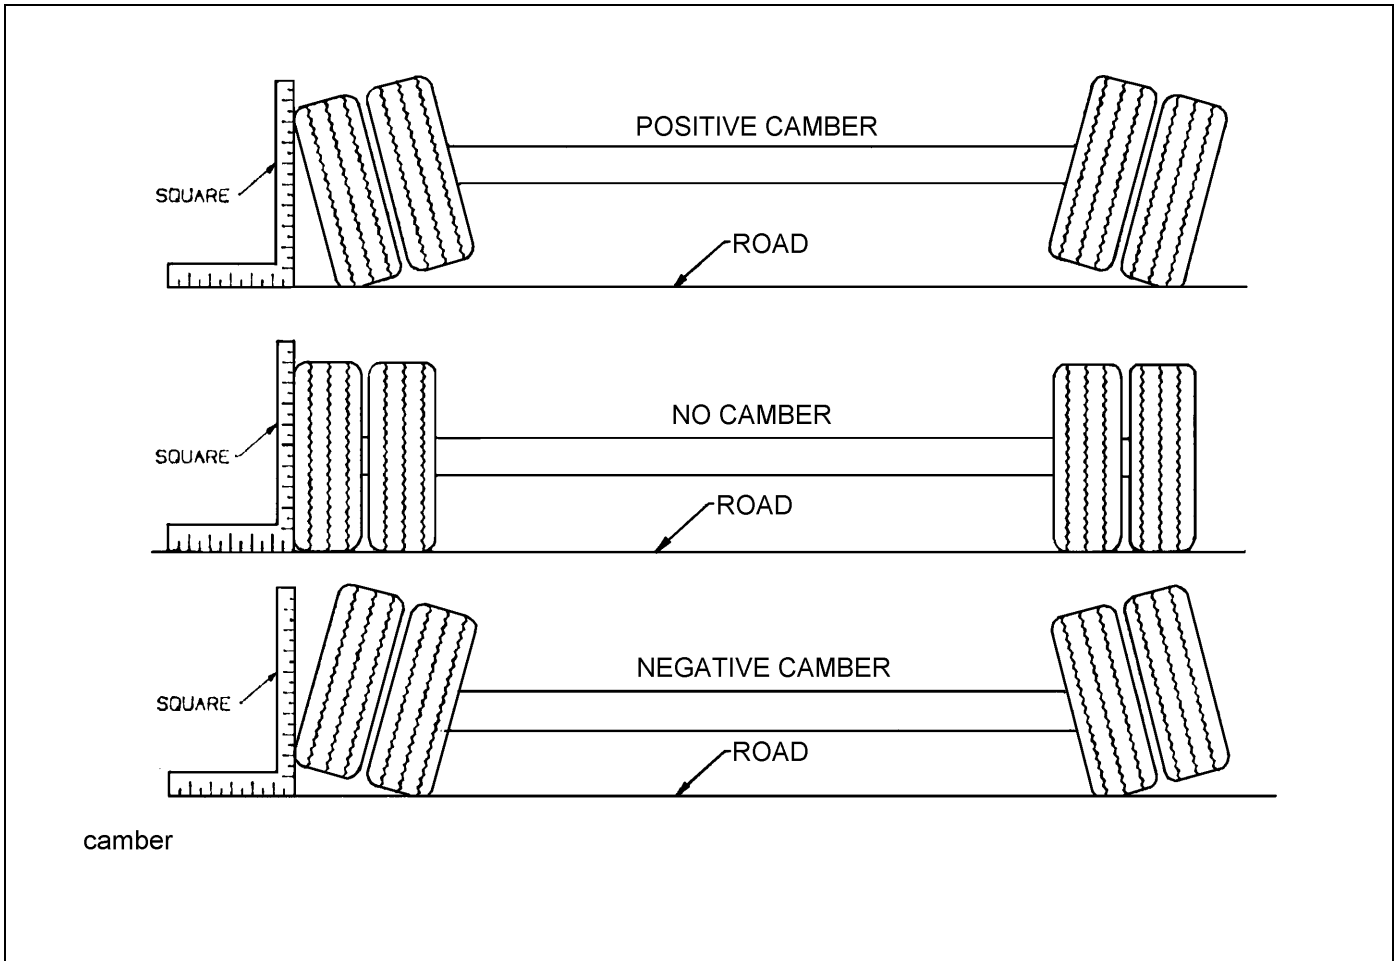

Figure 4-11: Examples of Camber
4. Follow the same procedures as in steps 2 and 3, except place the axle gauge above and below the axle. If gauge point gap is found, the axle has positive or negative camber. The trailer axle has no camber from the factory. If it is found to have positive or negative camber, axle replacement is necessary (See Figure 4-11 for examples of camber).